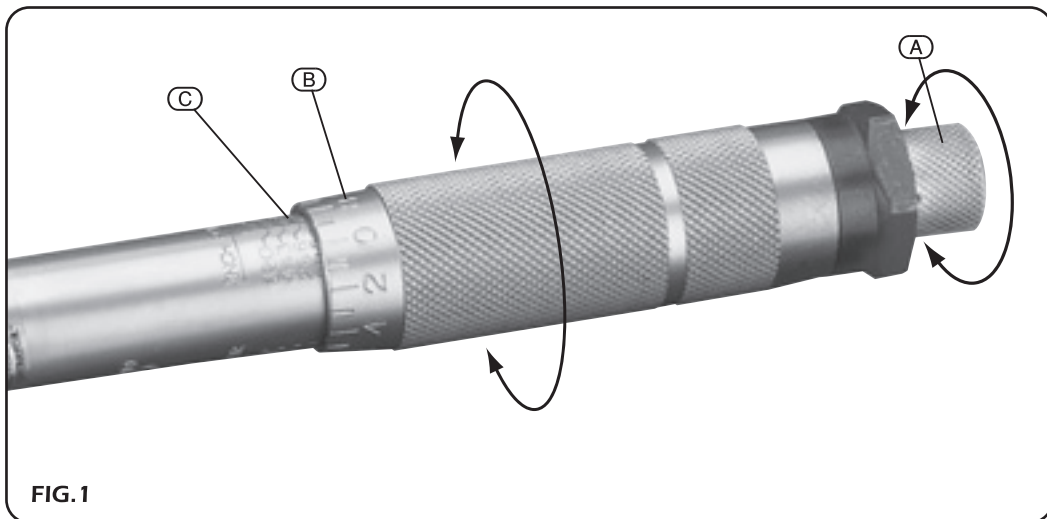

FIG. 1
1. Unlock handle (Fig.1) (Page 4).
4. Lock handle (Fig.1) (Page 4).
1. Unlock handle. (Fig.1) (Page 4).
4. Lock handle. (Fig.1) (Page 4).